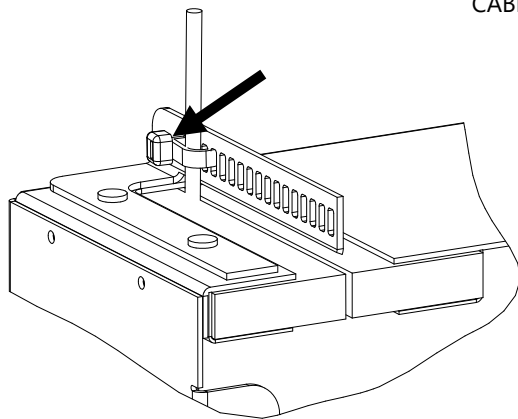

Figure 4
1. Route the incoming PFC into the TB and secure to the strain relief bar with a supplied cable tie, as shown in **Figure 4**. Ensure adequate length for fiber slack (1-1.5 meters).